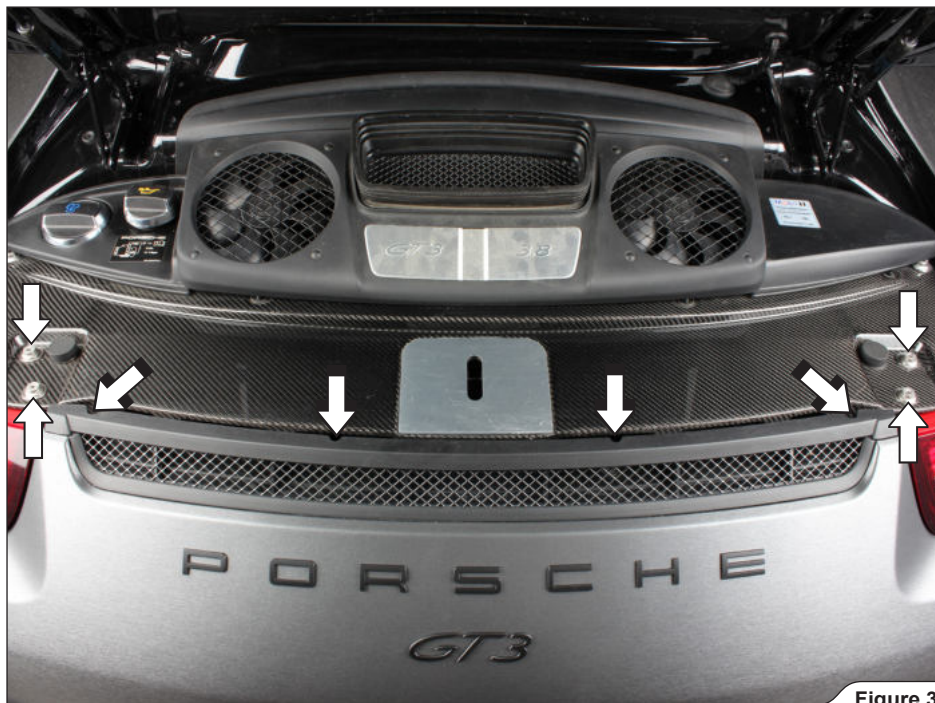

Figure 3
3. Unscrew the marked bolts (Figure 3).